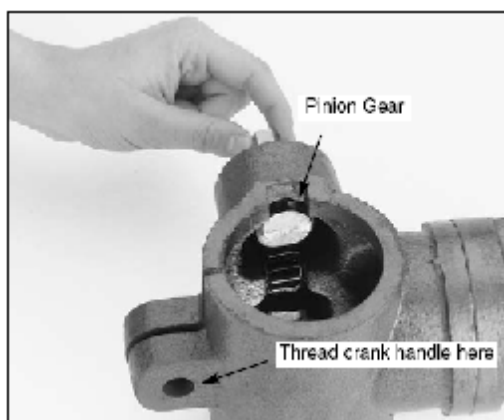
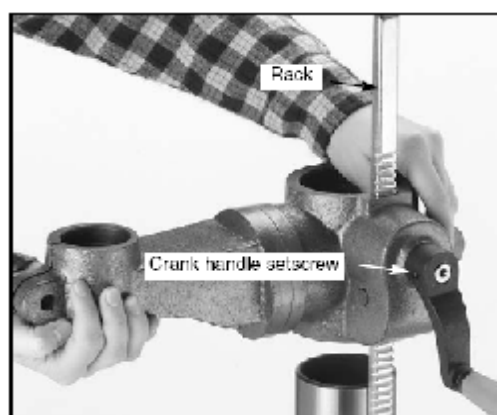

Figure 3
Figure 4
1. Thread the 12mm table lock handle 3 turns into the table support bracket as shown in **Figure 3**.
2. Insert the pinion gear into the hole on the side of the table support bracket from the inside, starting with the pinion shaft as shown in **Figure 3**. Align setscrew in crank handle with flat on pinion gear shaft and secure using the 3mm Allen® wrench provided as shown in **Figure 4**.
3. Examine the rack and note that the gear teeth extend farther on one end than the other. The end of the rack where the gear teeth are closest to the end should be positioned down. Insert the rack into the table support bracket and align it with the pocket as shown in **Figure 4**. The gear teeth on the rack must also face out.
- Slide the table support bracket onto the column while holding the rack in place. Allow the bracket to go down until the bottom of the rack contacts the shoulder on the column support as shown in **Figure 4**. Secure the table support bracket with the lock handle.